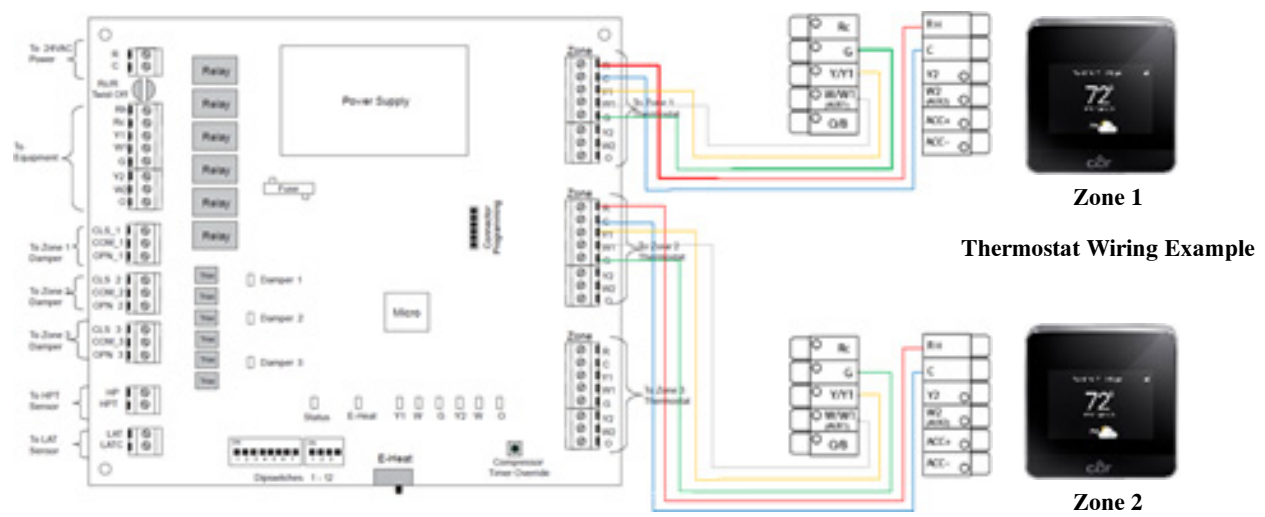

Fig. 3 - Wiring Diagram for Installation of Thermostats
2. Connect the thermostats wires to their respective Zone designation on the right side of the 3-Zone Panels. (See Fig. 3).